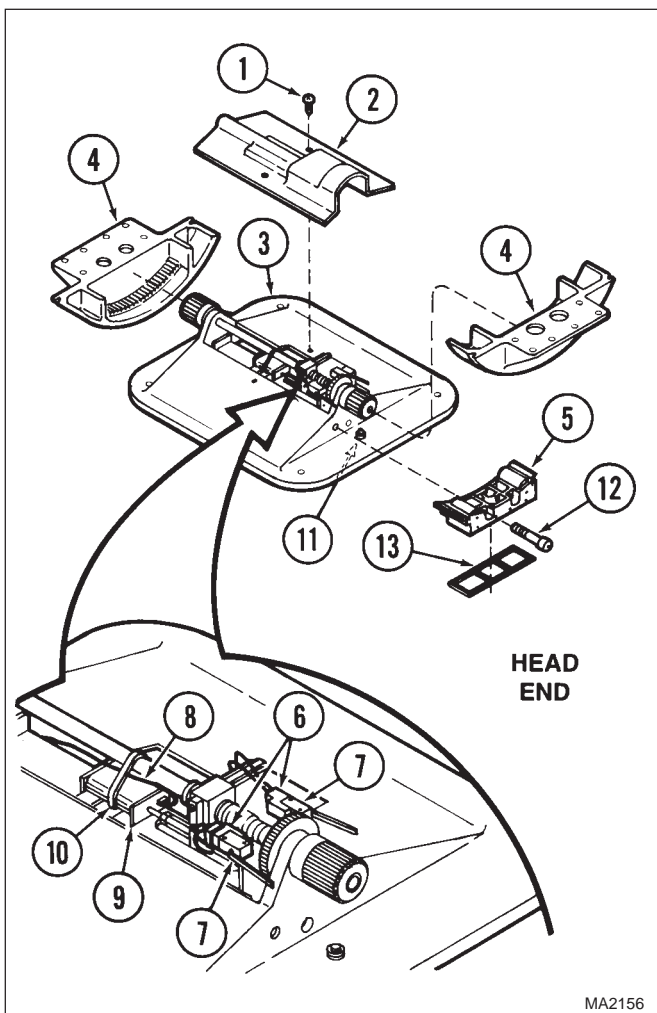
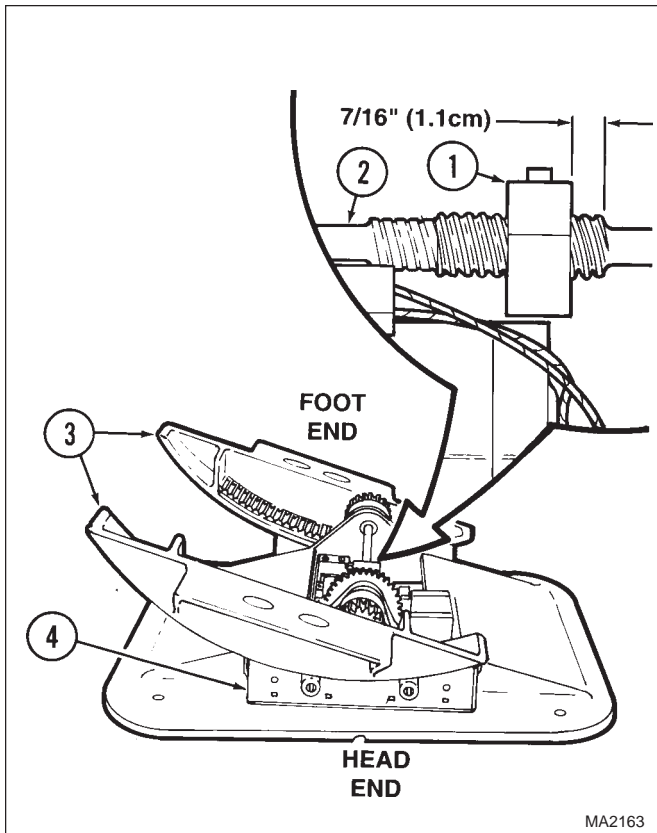

Figure 4-37. Wheel Housing Installation
Figure 4-38. Lateral Tilt Block Installation
- (19) Press on transducer rod tab until nut guide (2) is aligned with lead nut (3) and secure nut guide to lead nut with two screws (1).
- (20) Install one wheel housing seal (13, Figure 4-37) and wheel housing (5) on each end of trendelenburg plate (3) and secure with four screws (12). Tighten screws hand tight only.
- (21) Connect wire harness (8) to lateral tilt transducer (9).
- (22) Secure wire harness (8) to lateral tilt transducer (9) with cable tie (10).
- (23) Connect wire harnesses (6) to limit switches (7).
- (24) While pressing the Emergency COMPUTER CONTROL OVERRIDE SWITCH, press the LATERAL TILT LEFT button or LATERAL TILT RIGHT button until the lead nut (1, Figure 4-38) is approximately 7/16 in (1.1 cm) from the edge of the threads on drive shaft (2).
- (26) While pressing the Emergency COMPUTER CONTROL OVERRIDE SWITCH, press the LATERAL TILT LEFT button until the lateral tilt blocks (3) are approximately level.
- (27) Install lateral tilt cover (2, Figure 4-37) on trendelenburg plate (3) and secure with two screws (1).